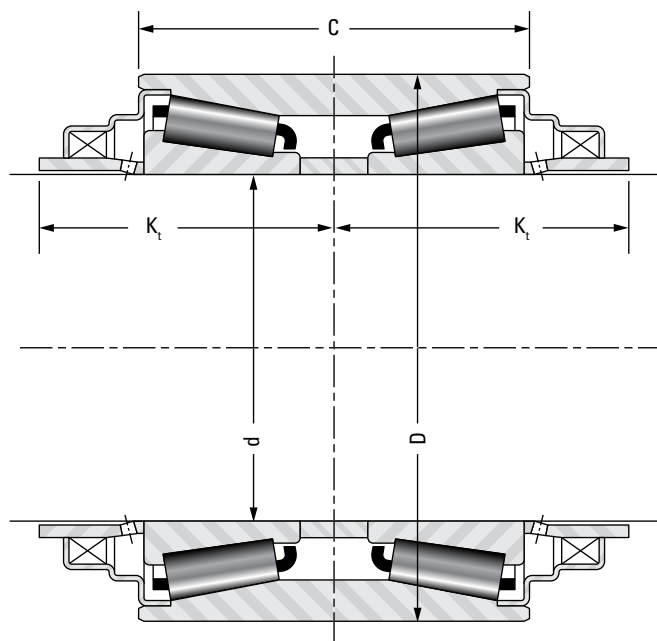

Fig. 1 3D illustration of AP bearing
- The narrow adapter shown in Fig. 1 can be used in many applications. Another type of mounting utilizes a full bore housing (see page 20). While this type of housing is currently unavailable through Timken, most bearing distributors provide a selection from other manufacturers.
- The bearing assembly is pressed on the axle as a completely sealed unit. The axle end cap, cap screws and locking plate can be applied to the axle as a unit. When the axle end cap, as shown in Fig. 1 is used, the locking plate provided locks the cap screws.